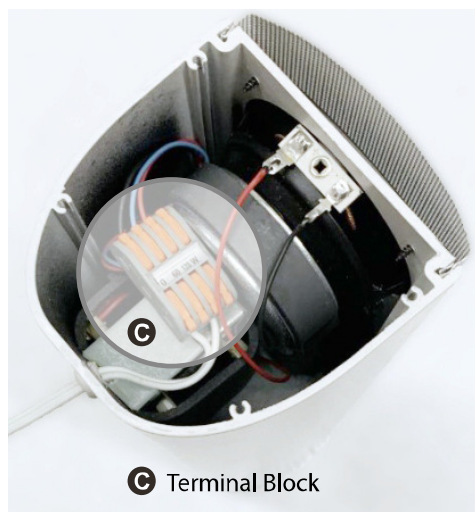

fig. 2
- 2) pierce the plastic cap (B) and insert the cable (fig. 2);